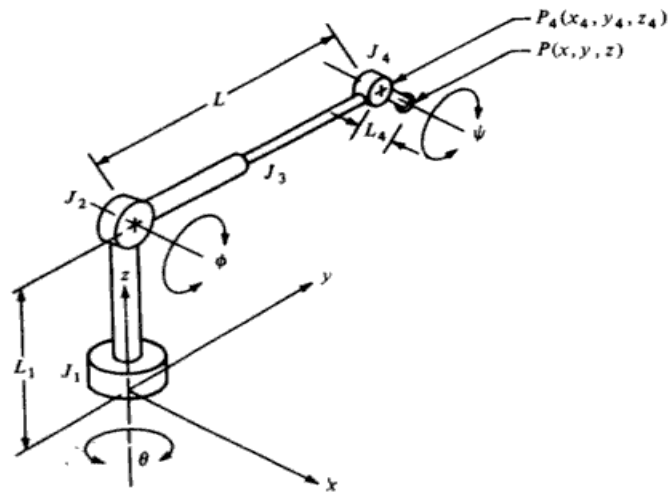

Figure 2. 3-Dimensional 4 degree of freedom manipulator.
- (c) Consider the manipulator shown in figure 2. Calculate $P(x, y, z)$ for the manipulator. Given specification of following parameters, the length of link $L_1=10\text{in}$, length of extension link $L=15\text{in}$, the length of link $L_4=3\text{in}$, the base angle $\theta=0^\circ$, the elevation angle $\Phi=20^\circ$, and the pitch angle $\Psi=34^\circ$. **07**